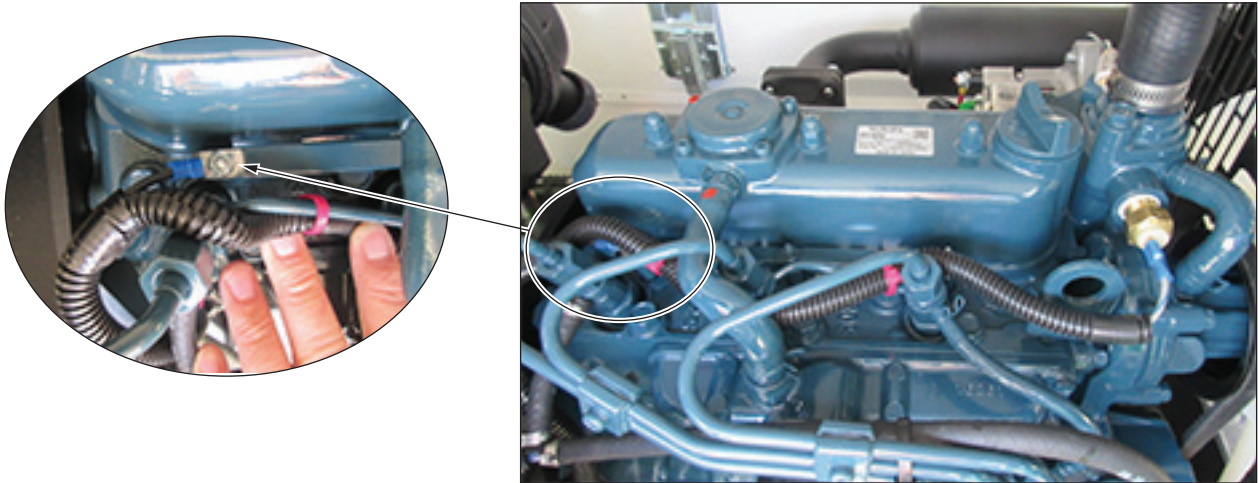

Figure 5 - Glow Plug Wire
- c. See Figure 5. Disconnect glow plug wire.